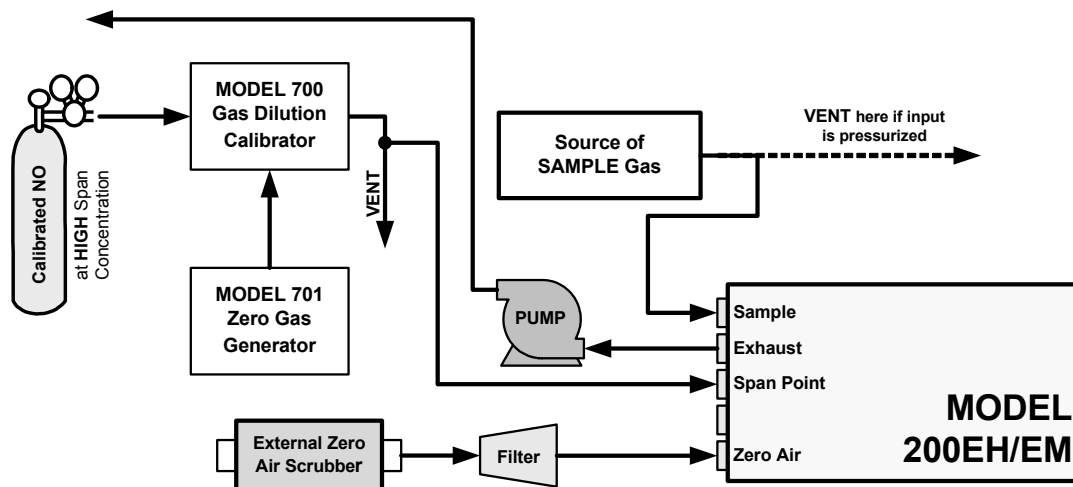

Figure 7-2: Pneumatic Connections—With Zero/Span Valve Option (50)
**STEP ONE:** Connect the sources of zero air and span gas as shown in Figure 7.2 or 7.3.